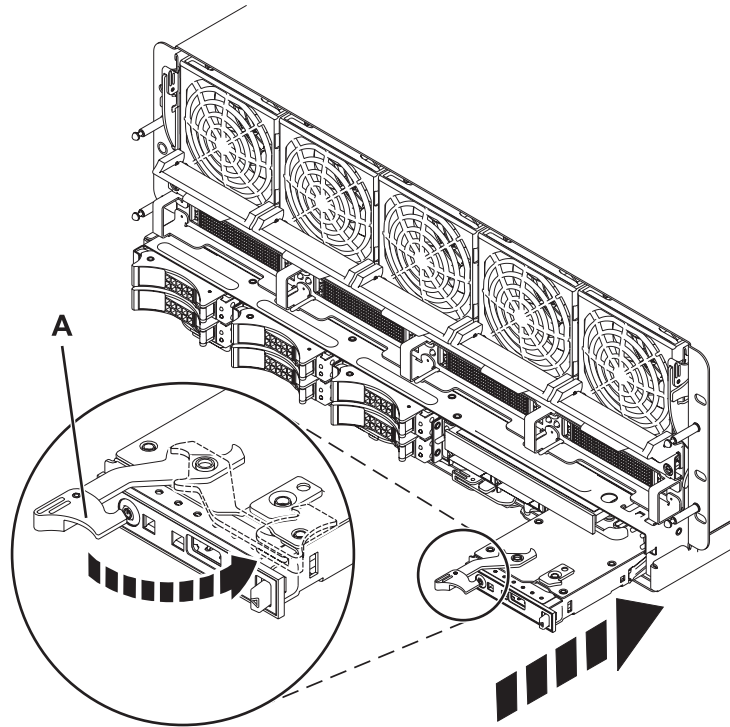

Figure 2. Installing a control panel
4. Install the new control panel, as shown in Figure 2.